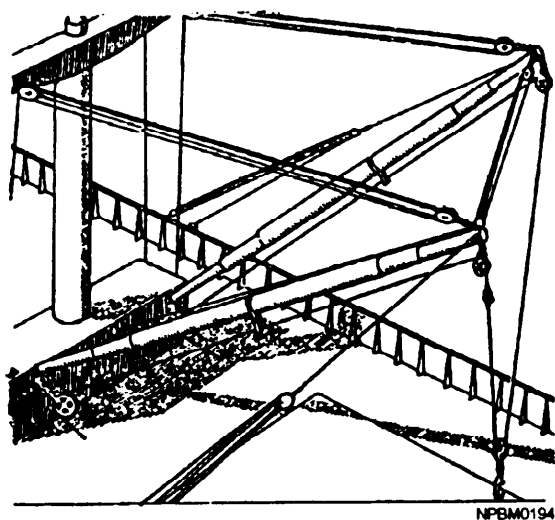

Figure 9-8.—Block-in-bight.
- Shackle the whips together and turn the eyes up to within a foot or so from the head block of the hatch boom (fig. 9-8).